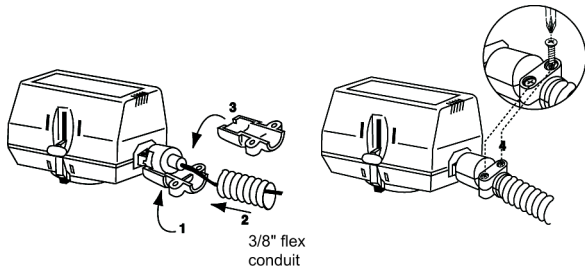

Fig. 3. Flexible Conduit Attachment
2. Connect lead wires. See figure 3 for flexible conduit installation with plenum-cable models.